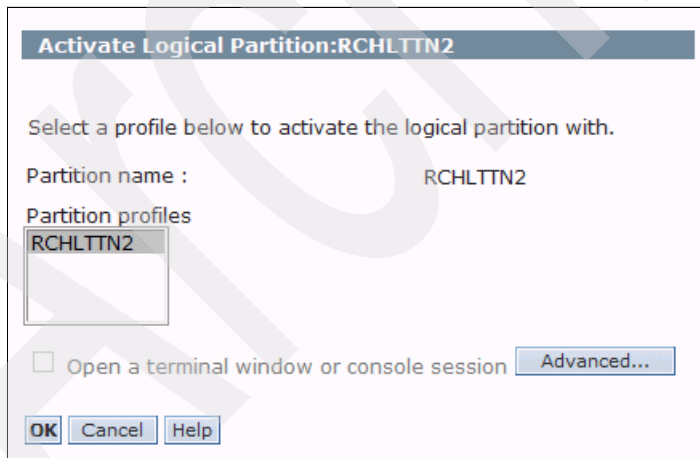

Figure 6-3 Selecting the profile to change
4. In the Activate Logical Partition window, select the partition profile to activate, and click **Advanced**, as shown in Figure 6-3.